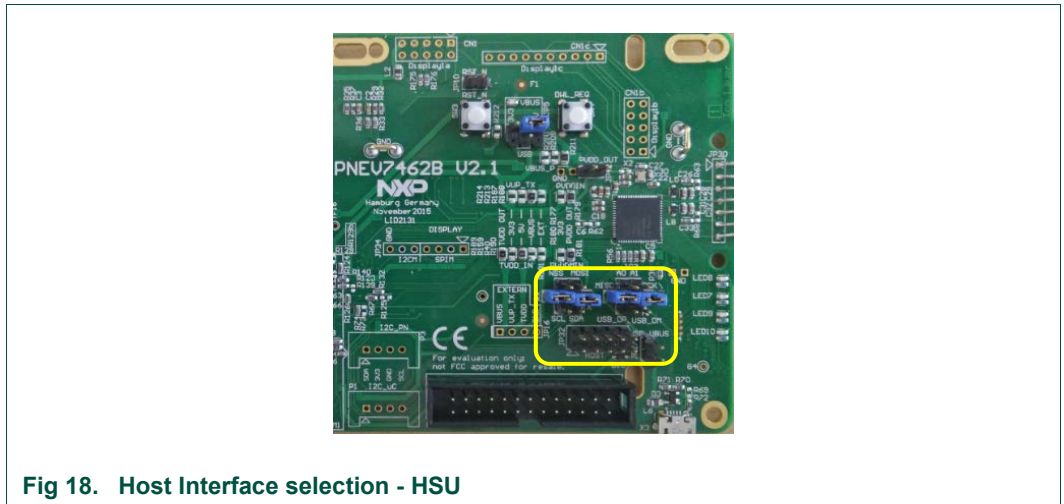

Fig 18. Host Interface selection - HSU
The yellow marked jumpers (Fig 18) need to be set for using the HSUART host interface of the chip. This will connect the UART\_TX of the PN7462AU to the I/O P0(0), MISO to the I/O P0(17), SCK to the I/O P0(15), and also the UART\_RX of the PN7462AU to the I/O P0(1) of the LPCXpresso board.